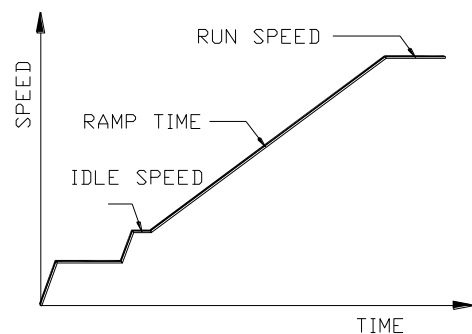

Figure 1
- (1) Before starting the engine adjust the Idle Speed to the maximum and Ramp Time to the minimum.
- (2) Adjust Run Speed to minimum and leave the connection between Terminals 2 & 3 open.
- (3) Start the engine. The engine speed will increase directly to Run Speed. When operating speed is reached slowly adjust Run Speed to the rated generator speed (RPM).
- (4) Short Terminals 2 & 3 and the engine speed should drop. Slowly set Idle Speed to an appropriate engine idle speed.
- (5) Stop the engine and adjust Ramp Time to a center point, then restart engine. This time the engine speed will stay in Idle and slowly Ramp up to normal engine speed when Terminals 2 & 3 are opened. Adjust ramp time to preferred Ramp speed. Refer to Figure 1.
- (6) With the engine operating at normal RPM close the IDLE SW, decreasing engine RPM back to idle RPM according to preset Ramp Time.
- (7) To ensure positive engine starts every time follow step (4) and turn the Idle Speed potentiometer an additional 3 to 5%.